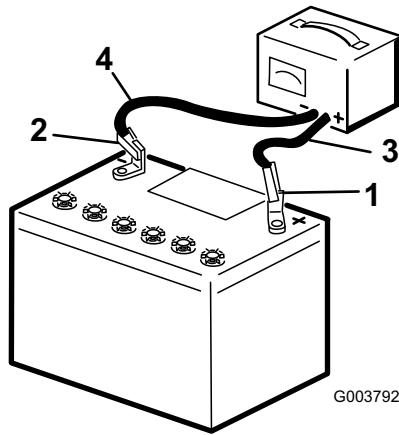

Figure 4
6. Leave the vent caps off and connect a charger to the battery (Figure 4) and charge it at a rate of 4 amperes or less for 4 hours (12 volts). Do not overcharge the battery.
7. When the battery is fully charged, unplug the charger from the electrical outlet, then disconnect the charger leads from the battery posts (Figure 4).